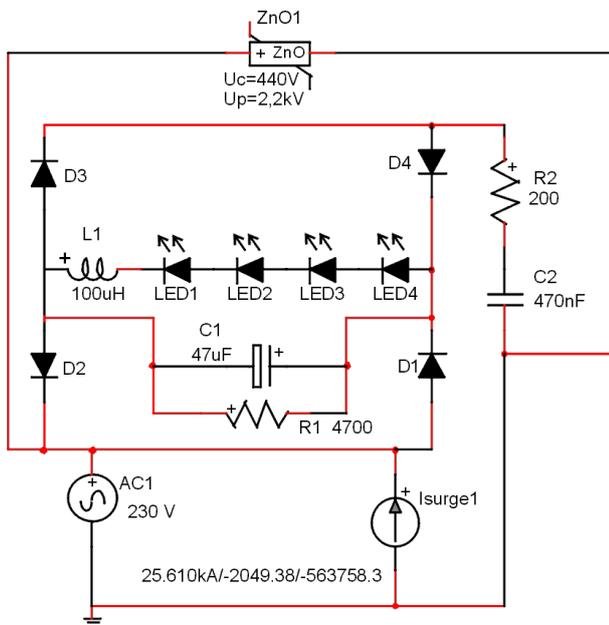

Fig. 3. Common LED indicator diagram with lightning and switching overvoltage protection.
They are supply directly from AC electric network. It isn't protected against overvoltage from supply line. During normal exploitation there isn't any problem with indicator. Presented unit was installed in high voltage lab. During first cycle of normal surge generator work LED indicator was damaged. The lightning overvoltages were produced by the high-voltage surge generator (SG) – type UCS 500M6B. The SG covers transient and power fail requirement according to international standards with voltage capability of up to 1,2/50 μ s 6,6kV. Two different configurations were examined. First investigation shows that diode D1 and D2 was shorted. In this case LED lamp it self wasn't damaged. To prevent future dysfunction fee elements were added: metal oxide varistor (ZnO1) and L1 – fig. 3.